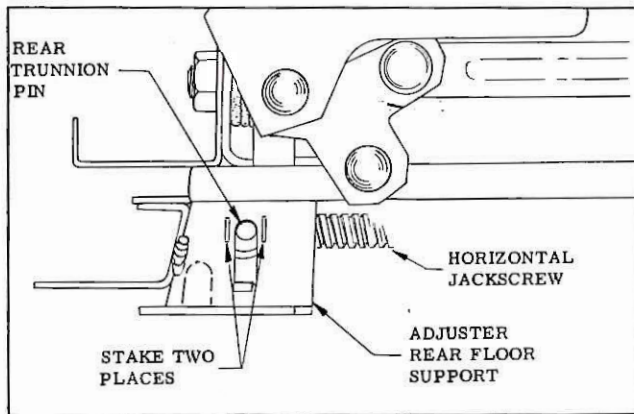

Fig. 8—Staking Rear Trunnion Pin
3. On both sides of the seat stake the metal adjacent to the trunnion pin located in the rear floor support for the horizontal jackscrew (fig. 8).